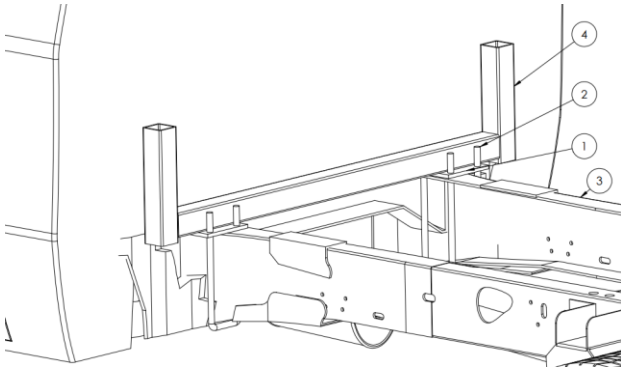

Figure 1.4
An alternate mounting option is to use u-bolts (not supplied). Place two U-bolt mounting plates (1) (not supplied) on the chassis (3) and place the gantry base tube (4) on top. Align so that there is a minimum clearance of 1" between rear most part of cab and gantry frame (4). Base tube must be centered width-wise. Brackets (1) must allow four u-bolts (2) (not supplied) to be positioned, see Figure 1.4 on the following page.